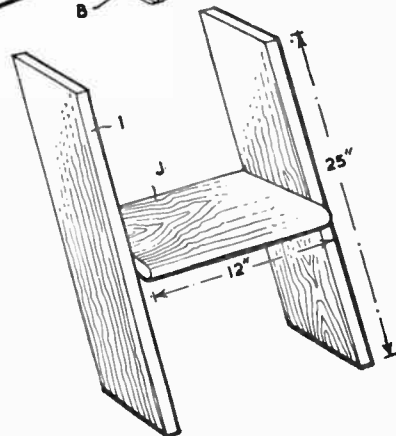

Fig. 5
Now glue the entrance assembly to the main body of the building. When this is secured, you can start adding the roof of the porch. Insert the eight pillars (29) in the holes in piece 15. The porch roof is made up as shown in Fig. 5. The two pieces 27 are of card scored and bent as shown on the design sheet. Glue them between the walls 23 and the front 8. Small blocks are cut from waste
wood, and added to the card as shown in Fig. 5. The final capping piece 28 is also of card, shaped as shown on the design sheet, and the flaps of this are glued to the small blocks.
In Fig. 5 will be seen the remaining step and the sides I. Dimensions are
Fig. 5 shows a gun port wreath. These were a prominent feature of Stuart ships, and the extent to which they can be modelled accurately depends on the scale of the model, and how good you are at miniature work.